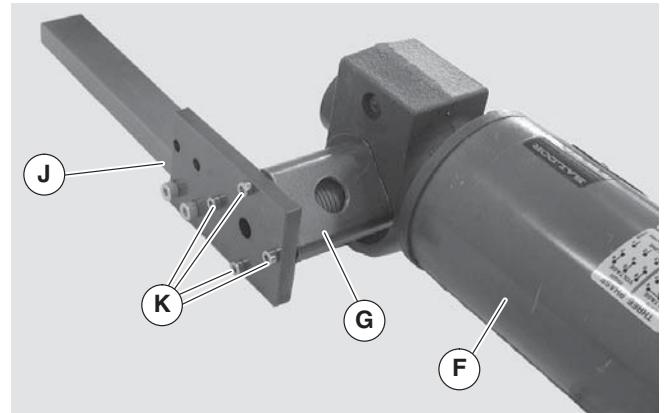

Figure 16
6. Attach guard tube (Figure 16, item G) and gearmotor support assembly (J) to gearmotor assembly (F) with screws (K). Tighten screws (K) to 50 in-lb (5.6 Nm).